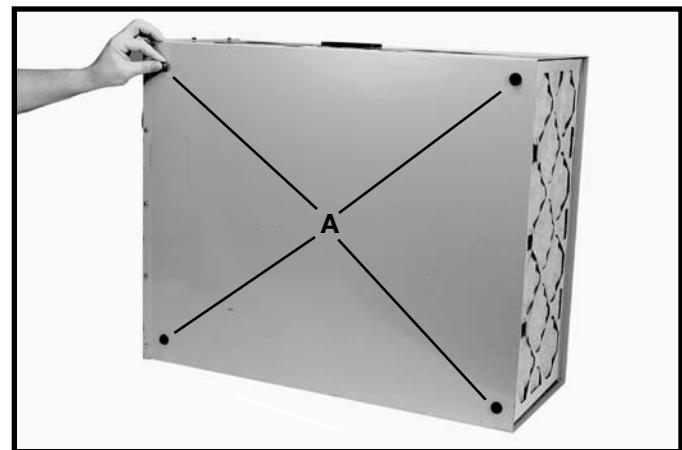

Fig. 3
1. Locate (4) self-adhesive rubber feet (A) Fig. 3, supplied with the unit. Carefully place Air Cleaner on a firm supporting surface with access to the bottom of the cabinet. Apply a self-adhesive rubber foot (A) Fig. 3, to the bottom at each corner of the air cleaner cabinet. The rubber feet will help eliminate vibration and will prevent the possibility of the air cleaner "walking" across the work or floor surface.